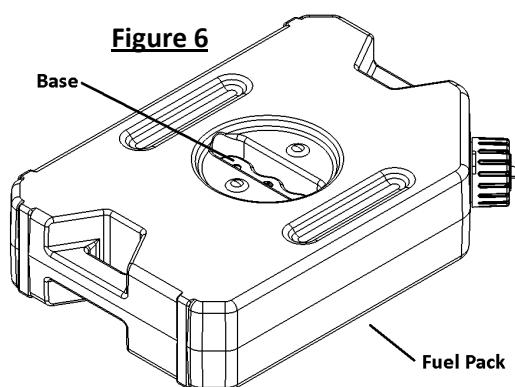

Figure 6
Step 2 – Once upright base has been mounted to the surface, mount Fuel Pack onto base and insert the T-Handle into threads in the top of the Upright Base then tighten by twisting clockwise to desired tension (see **Figures 6** and **7**).